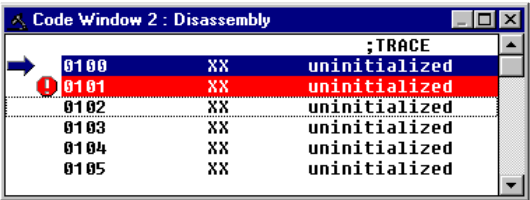

Figure 6-3. Code Window 2 in Disassembly Mode with Breakpoint Toggled
The Code windows (Code 1 and Code 2) can be set to display source code in either source or disassembly modes. Code windows also give visual positions of the current program counter (PC) and all breakpoints within the source code. Display both code windows simultaneously. Each code window is independent. The user can configure each window to display different parts of the source code or different assembly modes. See **Figure 6-3**.